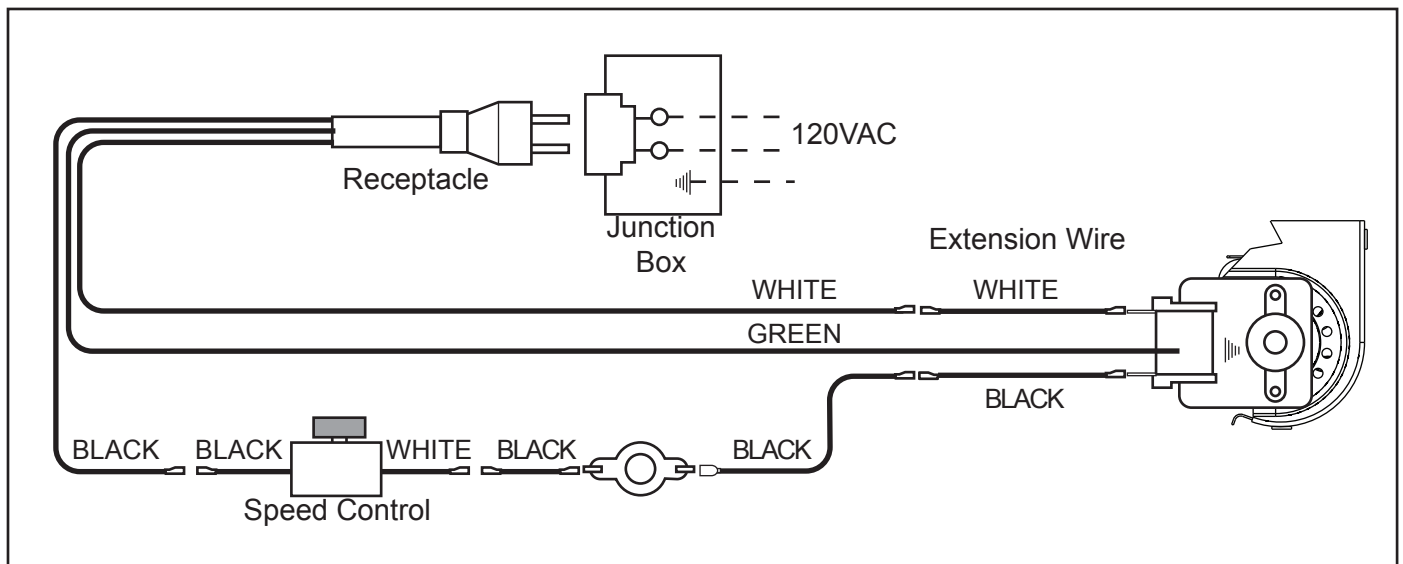

Figure 21
8. Add additional length of wire from blower to speed control and power cable. See wiring diagram. Figure 21.